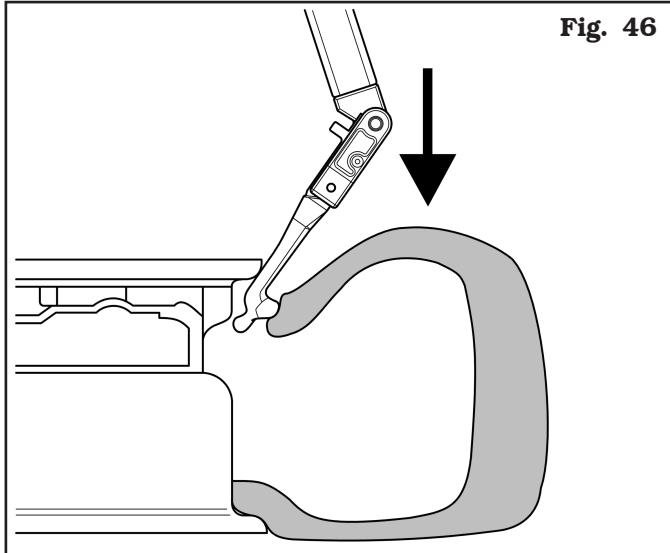
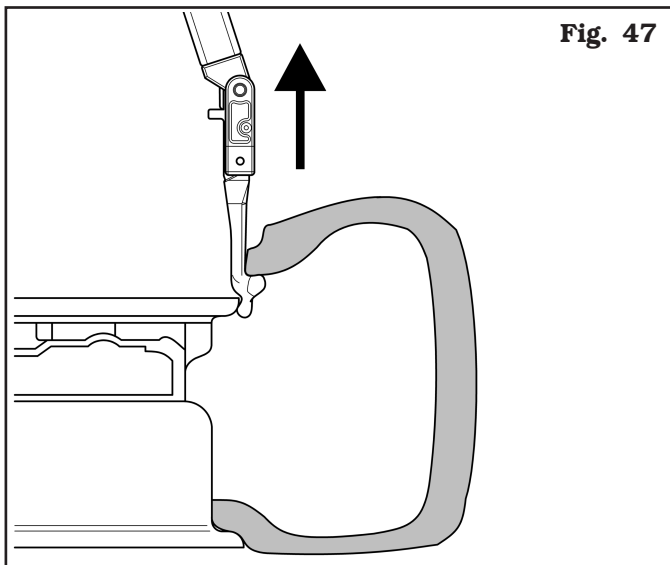
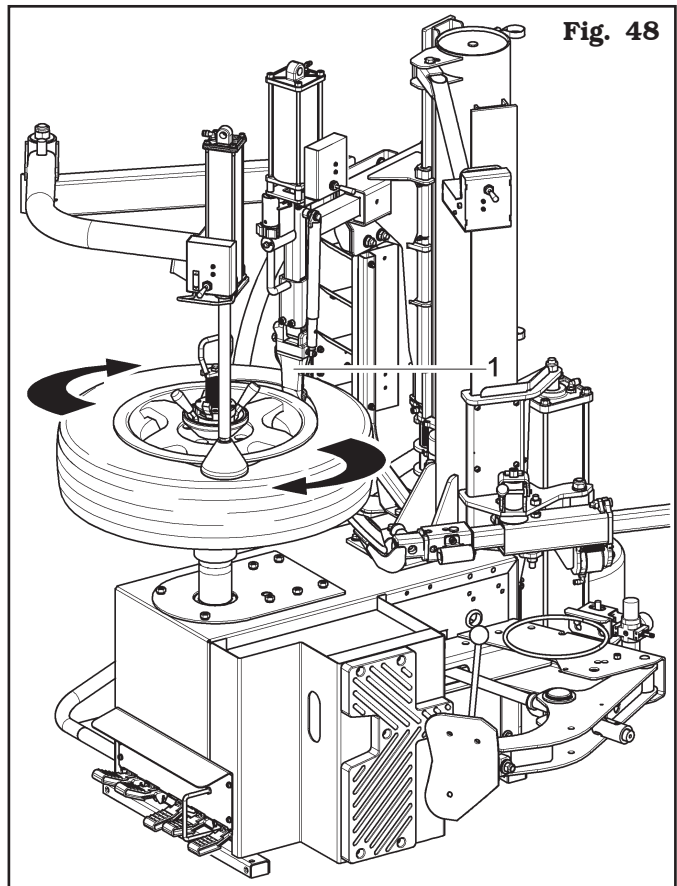

Fig. 46
Fig. 47
Fig. 48
5. lower the lever (**Fig. 44 ref. 6**) so that the toolhead penetrates between rim and tyre (see **Fig. 46**). While this operation is being performed, the toolhead rotates around the rim edge until it hooks the tyre bead (see **Fig. 47**).
5. lift the tool head using the lever (**Fig. 44 ref. 6**). When the toolhead reaches a vertical position with respect to the rim (**Fig. 48 ref. 1**), rotate the chuck so that the tyre enters the rim drop centre. Keep on raising the toolhead until the bead is on the rim edge (see **Fig. 47**).
MAKE SURE THAT THE TOOL HEAD IS ON DEMOUNTING POSITION (Fig. 47) BEFORE STARTING CHUCK ROTATION.
Rotate clockwise until the upper bead is completely disassembled (see **Fig. 48**);